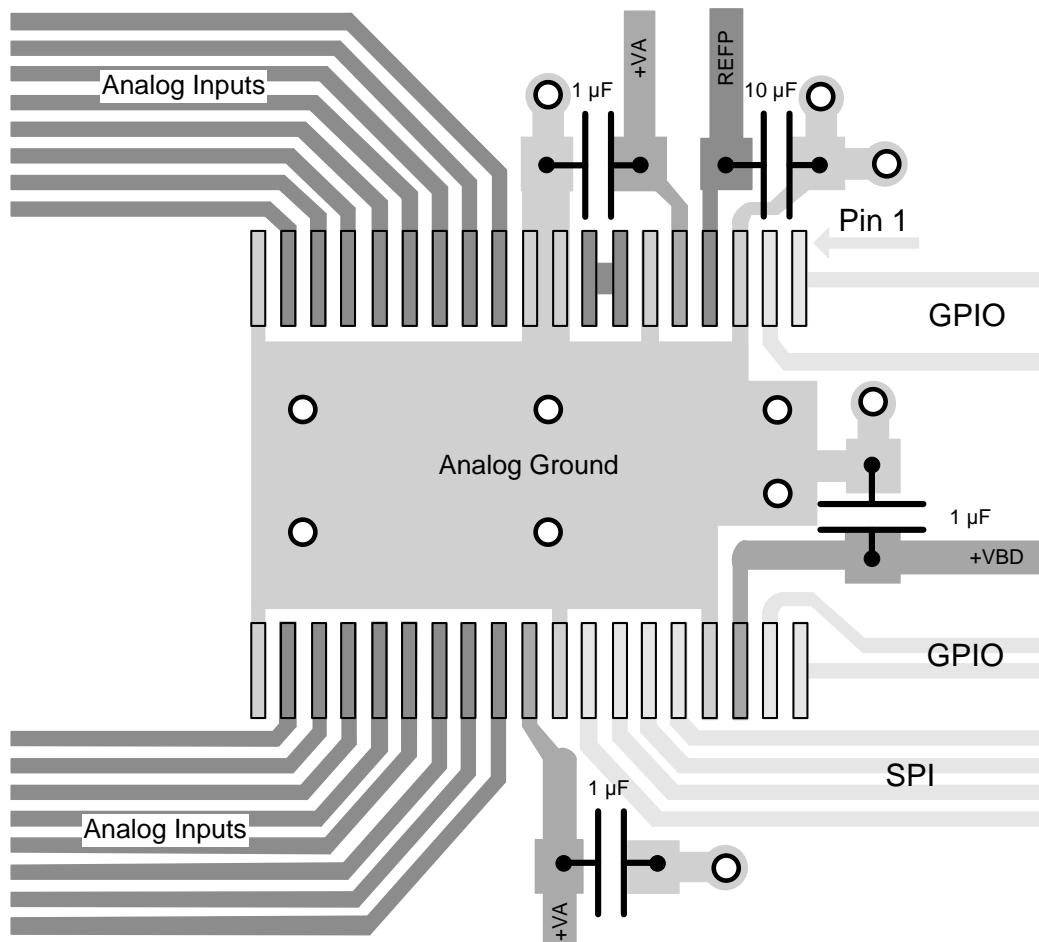

Figure 66. Recommended Layout
- The power sources must be clean and properly decoupled by placing a capacitor close to each of the three supply pins, as shown in Figure 66. To minimize ground inductance, ensure that each capacitor ground pin is connected to a grounding via by a very short and thick trace.
- The REFP pin requires a 10- μF ceramic capacitor to meet performance specifications. Place the capacitor directly next to the device. This capacitor ground pin must be routed to the REFM pin by a very short trace, as shown in Figure 66.
The full-power bandwidth of the converter makes the ADC sensitive to high frequencies in digital lines. Organize components in the PCB by keeping digital lines apart from the analog signal paths. This design configuration is critical to minimize crosstalk. For example, in Figure 66, input drivers are expected to be on the left of the converter and the microcontroller on the right.